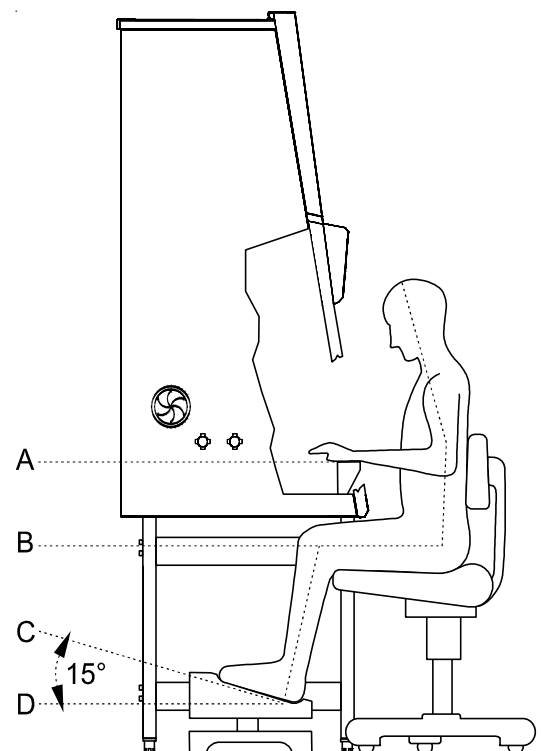

Fig. 15
**Fig. 15:** To prevent risks to health, a height-adjustable working chair with an adjustable seat back should be used during extended work periods at the biological safety cabinet.